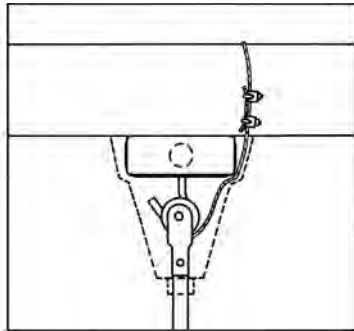

Figure 3
9. This fan is equipped with the required “secondary support” cable. This cable must be affixed to the beam structures and securely clamped in such a manner to support the weight of the fan in the event the mounting hook or other parts fail. After wrapping cable around a structural member that will support 300 lbs., secure cable with supplied cable clamps as illustrated in Figure 3. (Note: Any additional materials needed for specific installations may be purchased from your local distributor.)
**IMPORTANT CAUTION:** The safety cable must not be placed between the rubber roller and hook but as illustrated in Figure 3.
10. When hanging fan on factory supplied “J” hook, make sure cable at top of rod is positioned behind “J” hook as illustrated in Figure 3.